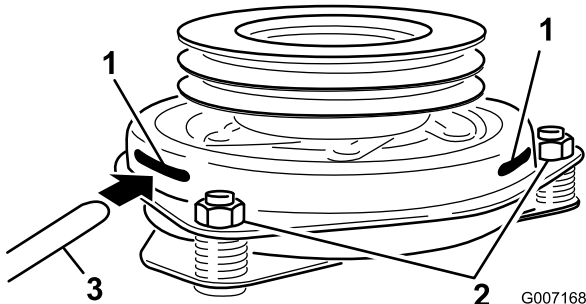

Figure 59
9. Insert a 0.015–0.021 inch (0.381–0.533 mm) feeler gauge through one inspection slot in the side of the assembly. Make sure it is between the armature and the rotor friction surfaces (Figure 59).
10. Tighten the lock nuts until there is slight binding on the feeler gauge but it can be moved easily within the air gap (Figure 59).